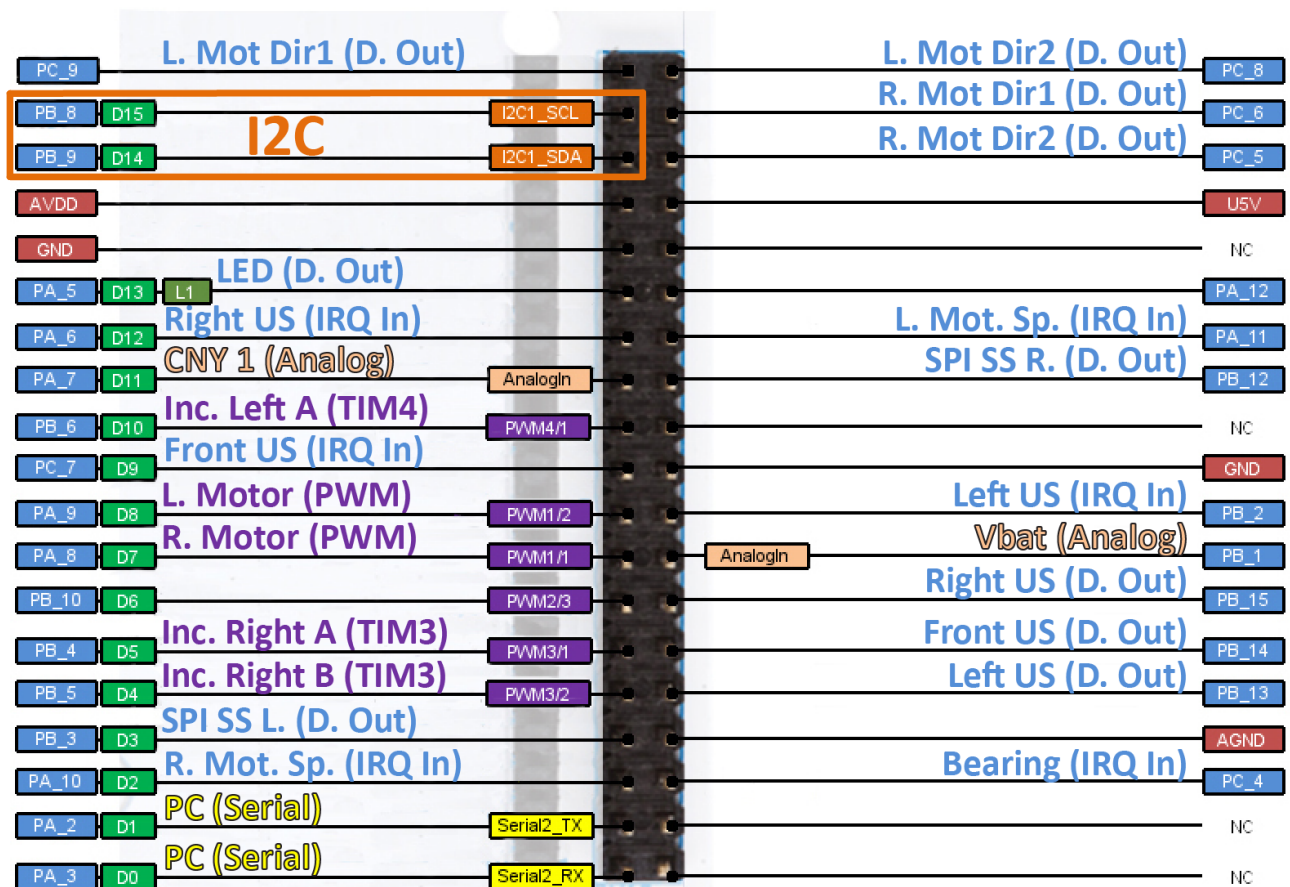
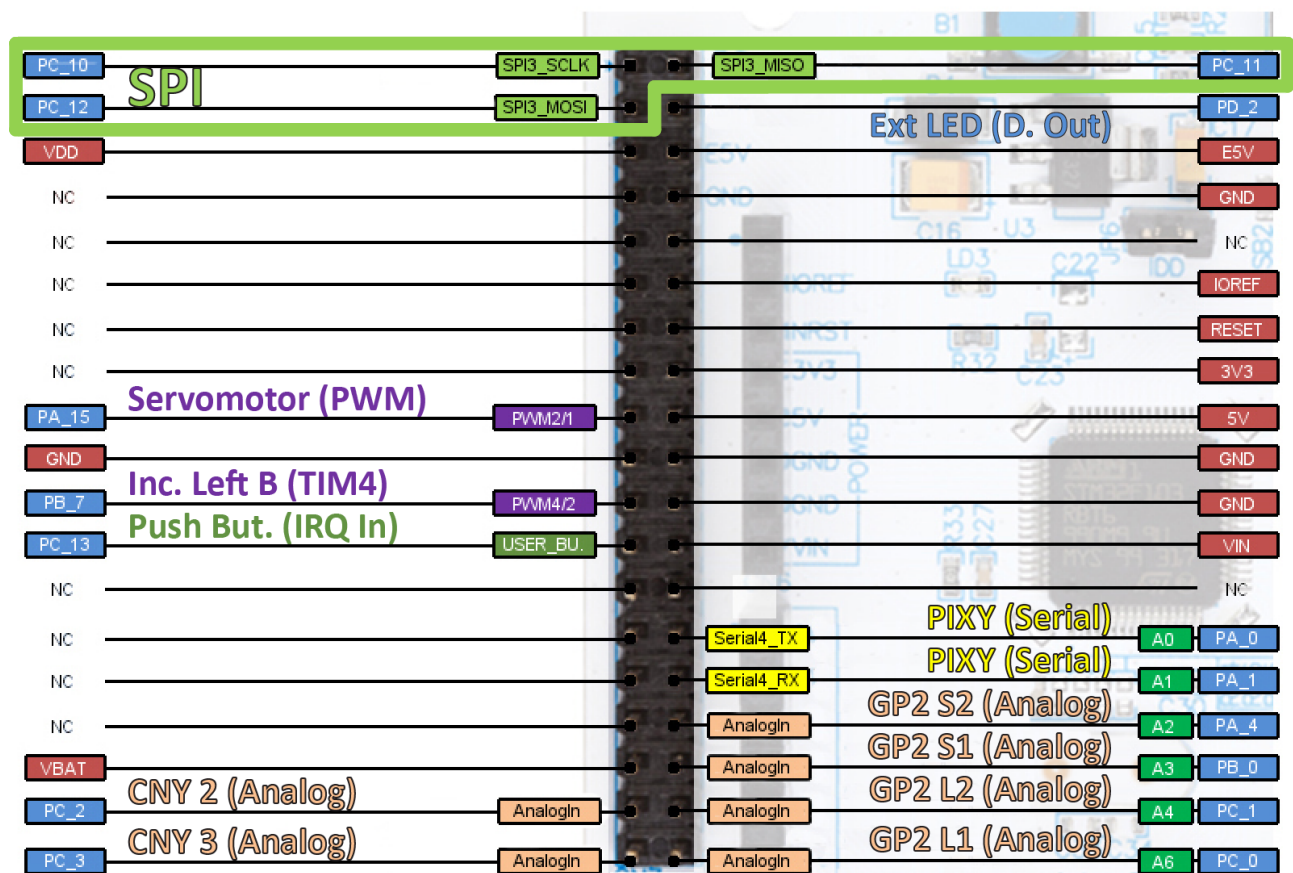

Figure 6: PIN map of the right connector
Figure 7: PIN map of the left connector
- On the pinmap of the nucleo card (Figure 6 and Figure 7), look for *L. Mot Dir1*, *L. Mot Dir2*, *R. Mot Dir1* and *R. Mot Dir2* and write the associated PIN.